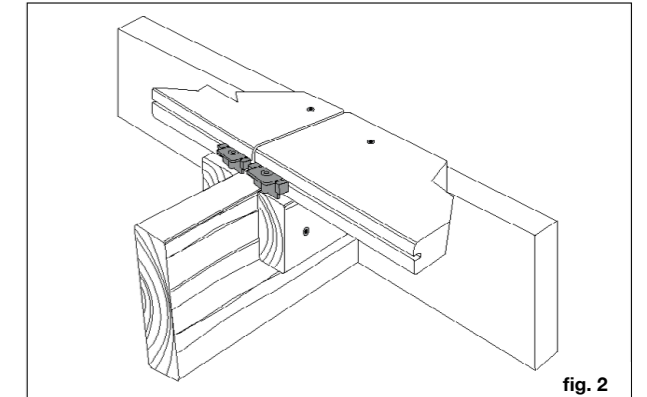

fig. 2
Follow the gapping requirements listed in fig. 1. For any decking where two boards meet end-to-end over a joist, add double joisting (fig. 2). Allow a 6.35 mm distance between all decking material and any permanent structure or post. Adequate ventilation is required at all times. Expansion gaps of 6 mm are recommended on all WPC products (Vista and Trailhead).
Step 2 Use two fasteners per deck board at each joist. For any decking where two boards meet end-to-end over a joist, double joisting must be used for proper board end support (fig. 2). Always pre-drill a pilot hole when fastening within 25 mm of board ends, whether using composite or wood screws. Do not over-tighten screws at board ends.